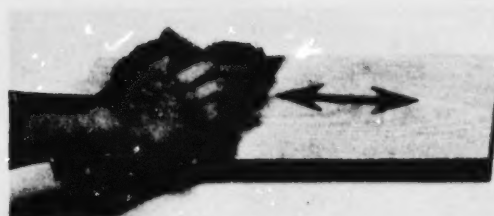

Figure 15-6 Using steel wool
3. Rub the wood in the direction of the grain with steel wool. Be careful not to rub through the bare wood. Remove any steel wool particles with a clean brush or damp cloth (*Figure 15-6*).